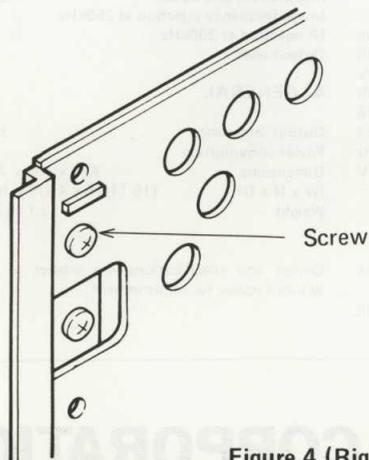

Figure 4 (Right side)
- (3) Remove a screw from each side as shown in figure 4.